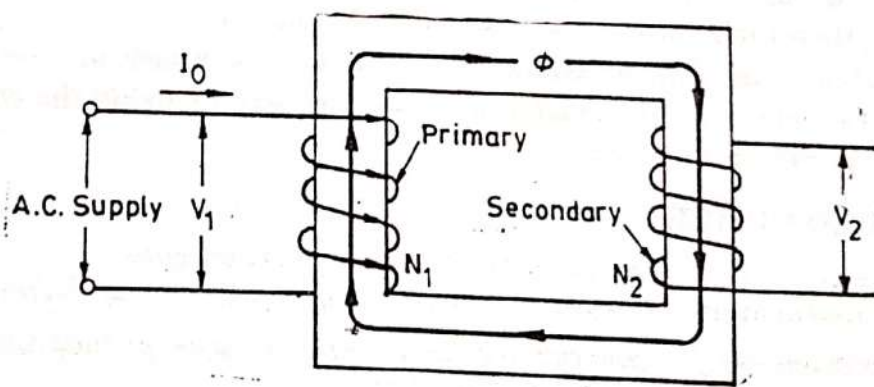

Fig. 2. Magnetic circuit of a core-type transformer.
**6.1. Core Type Transformer.** The completed magnetic circuit of the core-type transformer is in the shape of the hollow rectangle, exactly as shown in Fig. 2 in which  $I_0$  is the no-load current and  $\phi$  is the flux produced by it.  $N_1$  and  $N_2$  are the number of turns on the primary and secondary sides respectively.